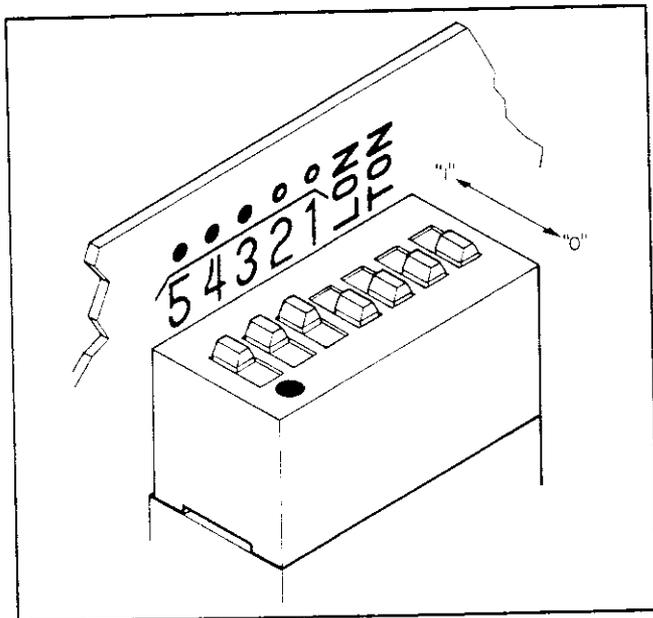

Figure 2-3. The HP-IB Address Switch Shown as Set by the Factory. The Address Shown is 11100 in Binary with Both Talk Only and Listen Only Off.
5. Use a pencil to set the switches to the desired HP-IB address and Talk Only (TON) or Listen Only (LON) condition. The switch is illustrated in Figure 2-3. Facing the board, the left hand switch (marked with a “5”) is the most significant address